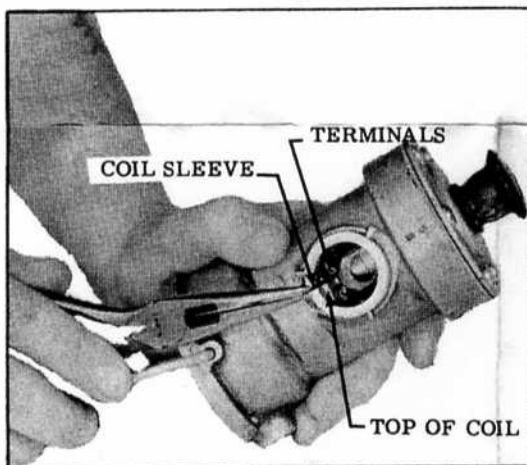

FIGURE 1
6. Install contact sleeves (E) onto the coil terminals (Figure 1).